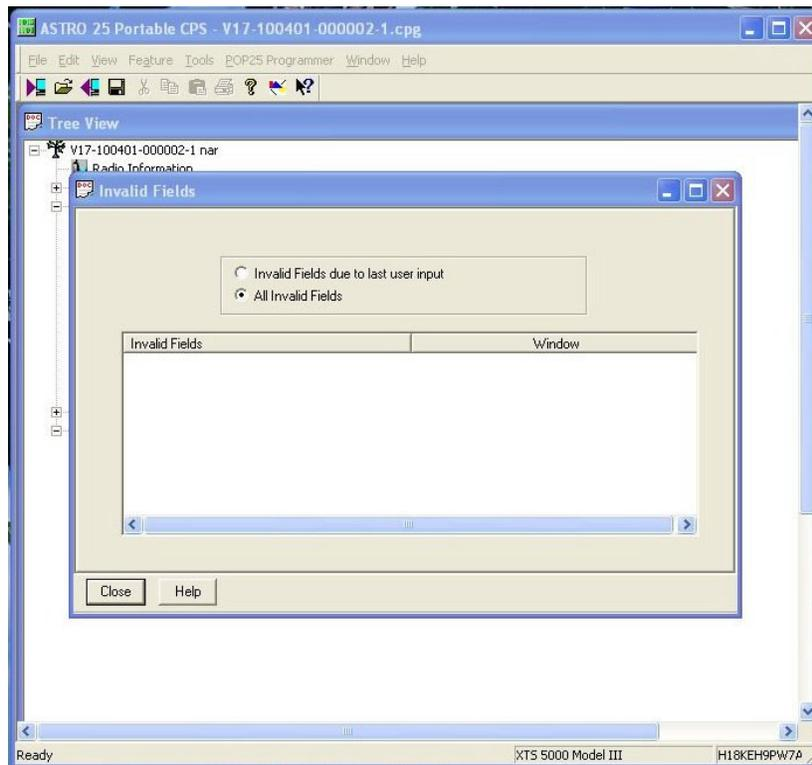

FIGURE 7: All Invalid Fields cleared
5) Check the Invalid Fields on the new codeplug for any other errors. At the top of the tool bar, click on VIEW and select “INVALID FIELDS”. If the box is empty then, you can now save the new codeplug. See Figure 7.